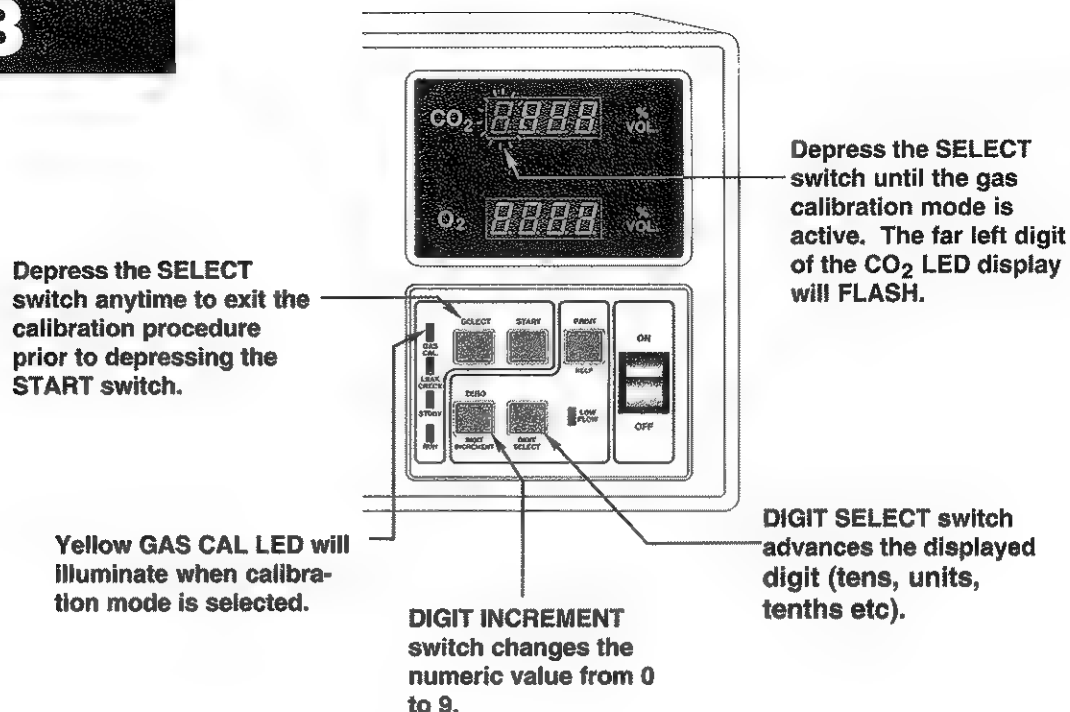

FIGURE 20:
Should it become necessary to exit the calibration procedure you may do so by depressing the **SELECT** switch any time **prior** to depressing the **START** switch. (See FIGURE 20.)
17. Depress the **START** switch (see FIGURE 20). The analyzer will store the gas values for the next time the unit is calibrated, perform gas and zero calibrations and return to the normal operating mode. During the automatic calibration cycle, the **GAS CAL LED** will flash. **The automatic calibration cycle will take approximately 75 seconds.** Turn off the valve on the gas container's regulator when instructed to do so by the analyzer printer's message. You may leave the calibration gas tank and hose connected to the analyzer if you desire. Calibration gas input to the analyzer is controlled by a solenoid activated valve inside the analyzer.